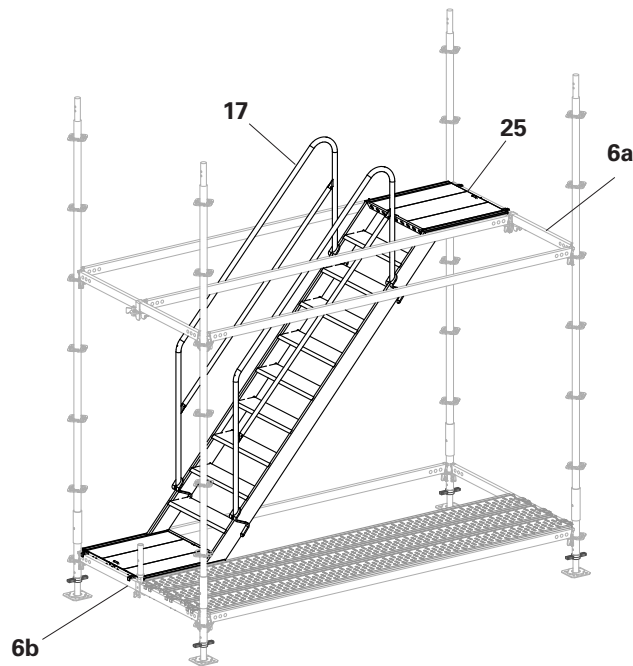
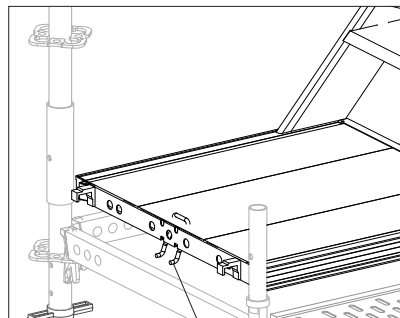
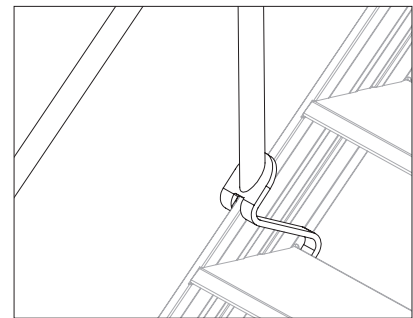

Fig. A3.05
Fig. A3.05a
Fig. A3.05b
1. Attach the Flex Stair UAS-2 (25) to the upper horizontal ledger (6a) first, then to the lower horizontal ledger (6b). (Fig. A3.05 + Fig. A3.05a)
2. Fit 2 x Stair Guardrails UAG (17). (Fig. A3.05 + Fig. A3.05b)